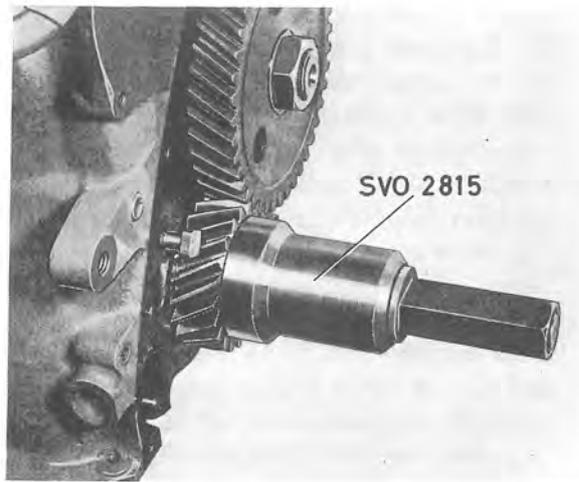

Fig. 2-36. Fitting crankshaft gear
6. Re-fit the crankshaft with tool SVO 2815, see Fig. 2-36.